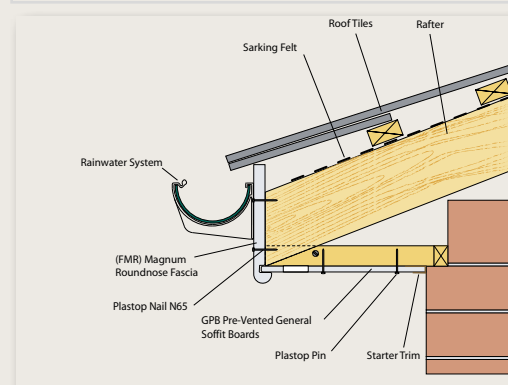

Fig 6. Magnum Roundnose Fascia with horizontal soffit.
**Figures 6, 7 and 8** show typical installations of Magnum Roundnose and Ogee Fascia Boards. Both Roundnose and Ogee Magnum boards are capable of supporting the eaves course of roof covering.